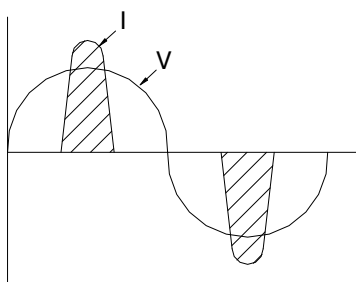
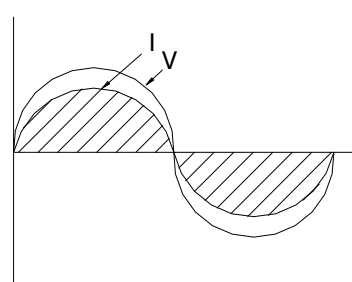

Figure 4.3
Figure 4.4
- (1) For a traditional AC/DC converter, there is a bridge rectifier and bulk capacitors which charges/discharges in a very short period of time. Hence, a high current pulse is introduced at AC input line and generates harmonic current noises through the power line. The un-intentional harmonic current noise could interfere with other electrical devices and also reduce the Power Factor (See Figure 4.3). In order to prevent interference with other equipments, PFC (Power Factor Correction) circuit should be used on the switching power supply that makes the current waveform more sinusoidal (Figure 4.4), and improves the quality and efficiency of the AC power source.